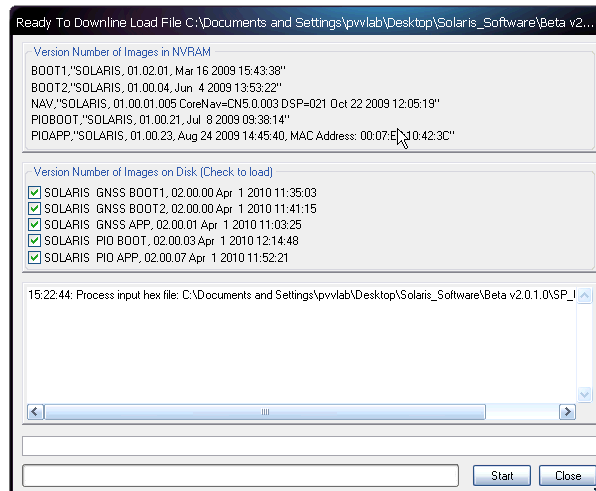

Figure 21: Ready to Downline Load File
52. The files to be uploaded are displayed on the *Ready to Downline Load File* dialog box with their corresponding check boxes selected (see Figure 21). Select and deselect files as necessary.